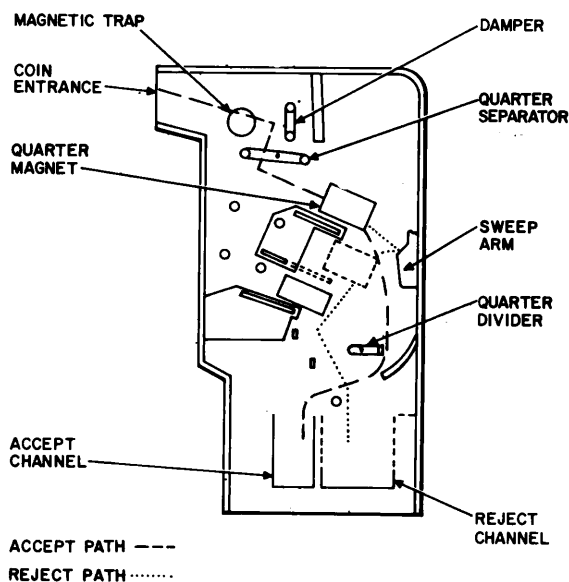

Fig. 4—Quarter Path in a Typical Coin Chute
2.05 Quarter Operation—Valid Coin Accepted (Fig. 4):
- (1) Quarter is deposited in coin entrance and passes magnetic trap.
- (2) Quarter continues and is checked for size and weight as the quarter separator rotates.
- (3) Quarter is channeled into the quarter magnet area.
- (4) The quarter magnet sets up an eddy current effect in the coin which slows its movement down the chute.
- (5) Quarter hits the right side (as viewed in Fig. 4) of quarter divider and is accepted.
2.06 Quarter Operation—Coin Rejected (Fig. 4):